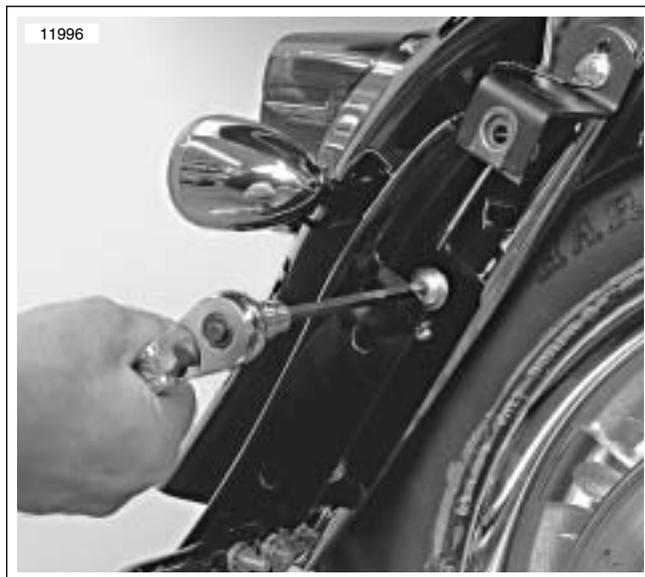
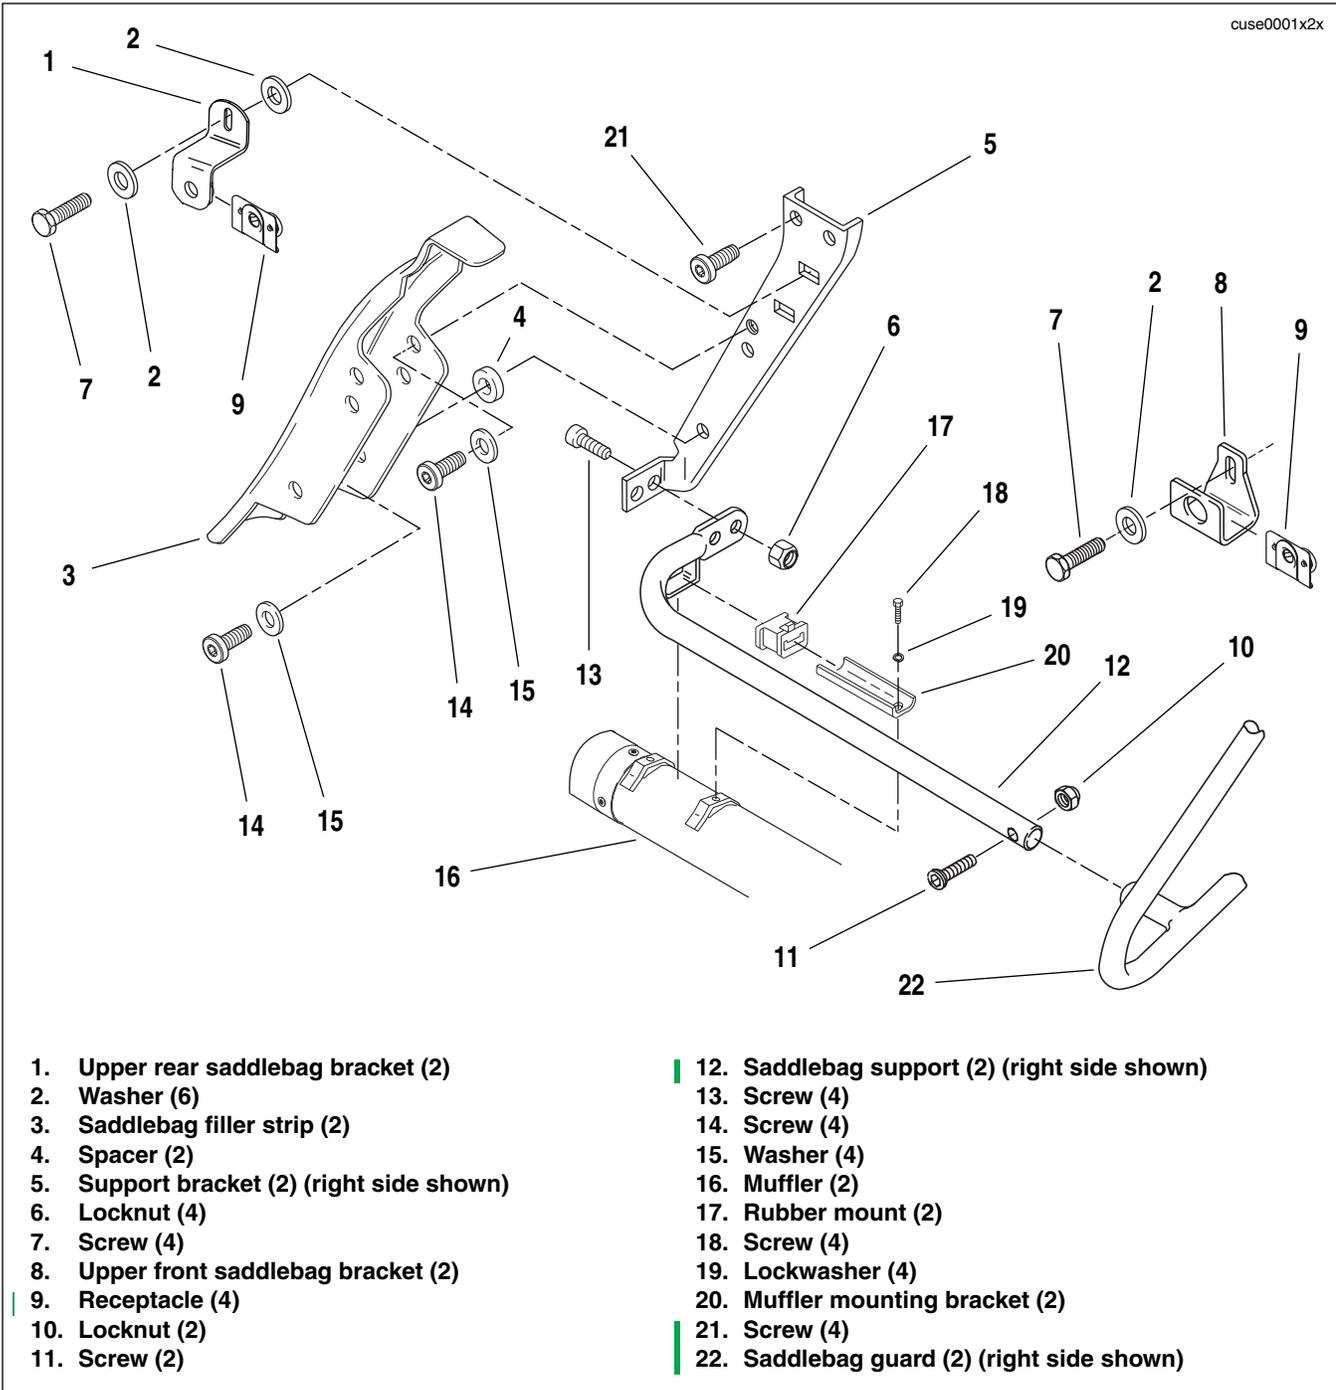

Figure 2-54. Removing Filler Strip
Figure 2-55. Saddlebag Support Components
2. See Figure 2-54. See Figure 2-55. Remove two screws (14), washers (15) and spacer (4) securing saddlebag filler strip (3) to vehicle. Remove filler strip.
1. See Figure 2-55. Position support bracket (5) and trim on vehicle. Secure with screws (21). Tighten to 15-20 ft-lbs (20.4-27.1 Nm).
2. Slide front end of saddlebag support (12) into tube in saddlebag guard (22). Loosely attach rear of saddlebag support to support bracket with two screws (13) and locknuts (6).
3. Loosely install screw (11) and locknut (10) through saddlebag guard and saddlebag support.
5. Loosely attach upper front saddlebag bracket (8): screw (7), washer (2) and bracket.
6. Loosely attach upper rear saddlebag bracket (1): screw (7), washer (2), bracket, and washer (2).
8. Install rubber mount (17) onto saddlebag support. Slide muffler mounting bracket (20) into rubber mount.
9. Attach muffler (16) to muffler mounting bracket with two screws (18) and lockwashers (19). Tighten to 96-144 **in-lbs** (10-9-16.3 Nm).
10. Install saddlebag filler strip (3) with spacer (4), two screws (14) and washers (15). Tighten to 15-20 ft-lbs (20.4-27.1 Nm).